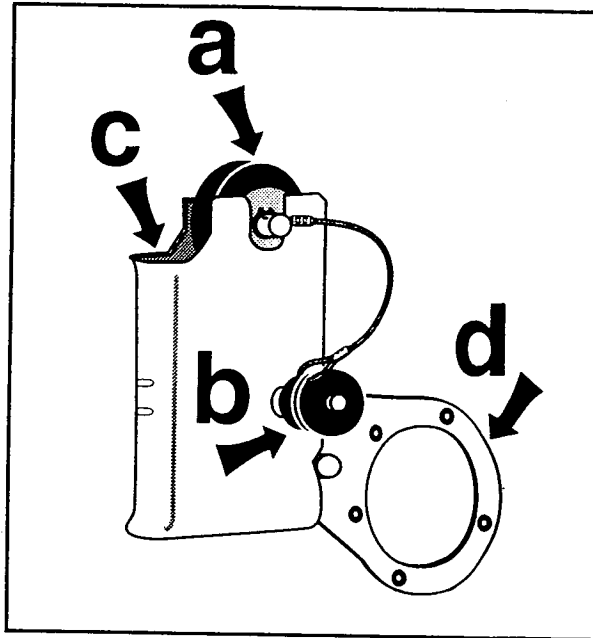

Figure 7
12.3 **Rope Grabs:** All rope grabs should be inspected (see Figure 7) to ensure that: